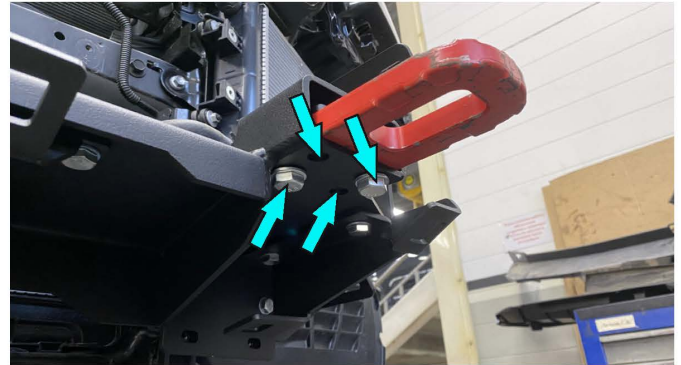

Fig.26
26. Fix recovery points on both sides of vehicle (item 19) using recovery points brackets (item 18), bolts M12x40 (item H), washers 12 (item R) (fig.26).